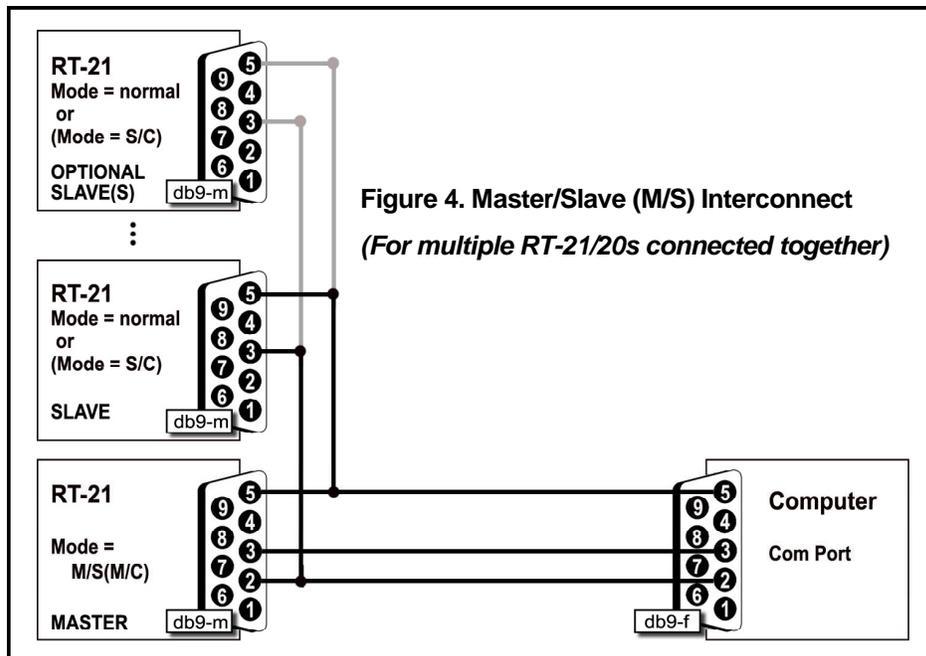

Figure 4. Master/Slave (M/S) Interconnect
- Cable the units as shown in Figure 4.